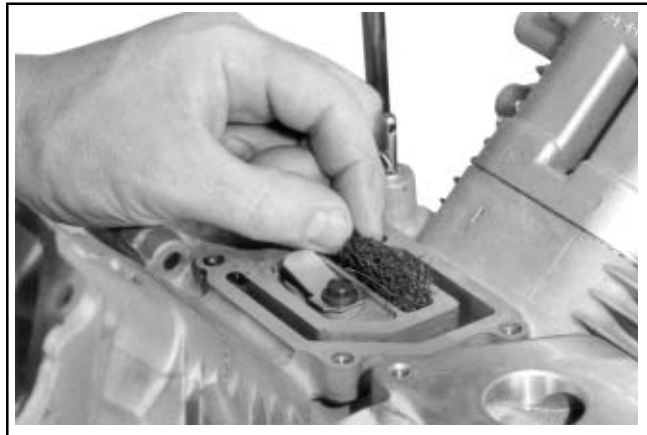

Figure 11-57. Installing New Breather Filter.
4. Insert the breather filter into position in the crankcase. Make sure no filter strands are on the sealing surface. See Figure 11-57.